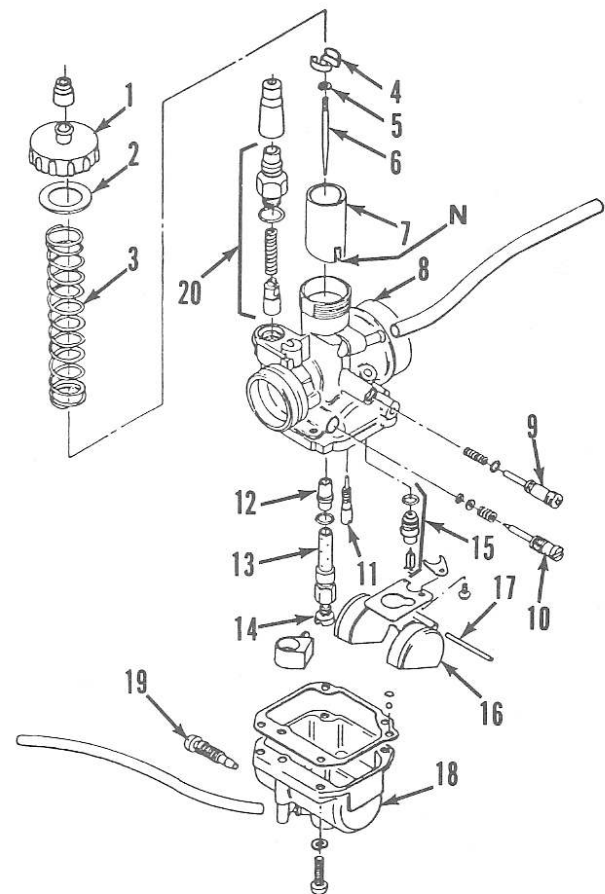

Fig. K4-5—Exploded view of Mikuni VM22SS carburetor used on all models.
**CARBURETOR.** The Mikuni VM22SS sliding valve type carburetor shown in Fig. K4-5 is used. Refer to CONDENSED SERVICE DATA for carburetor specifications.
Initial setting of idle mixture screw (10—Fig. K4-5) is 1¼ turns out from a lightly seated position on KLT160 models and 1 turn out on KLT and KLF 185 models. Final adjustment should be performed with engine running at normal operating temperature. Adjust idle speed screw